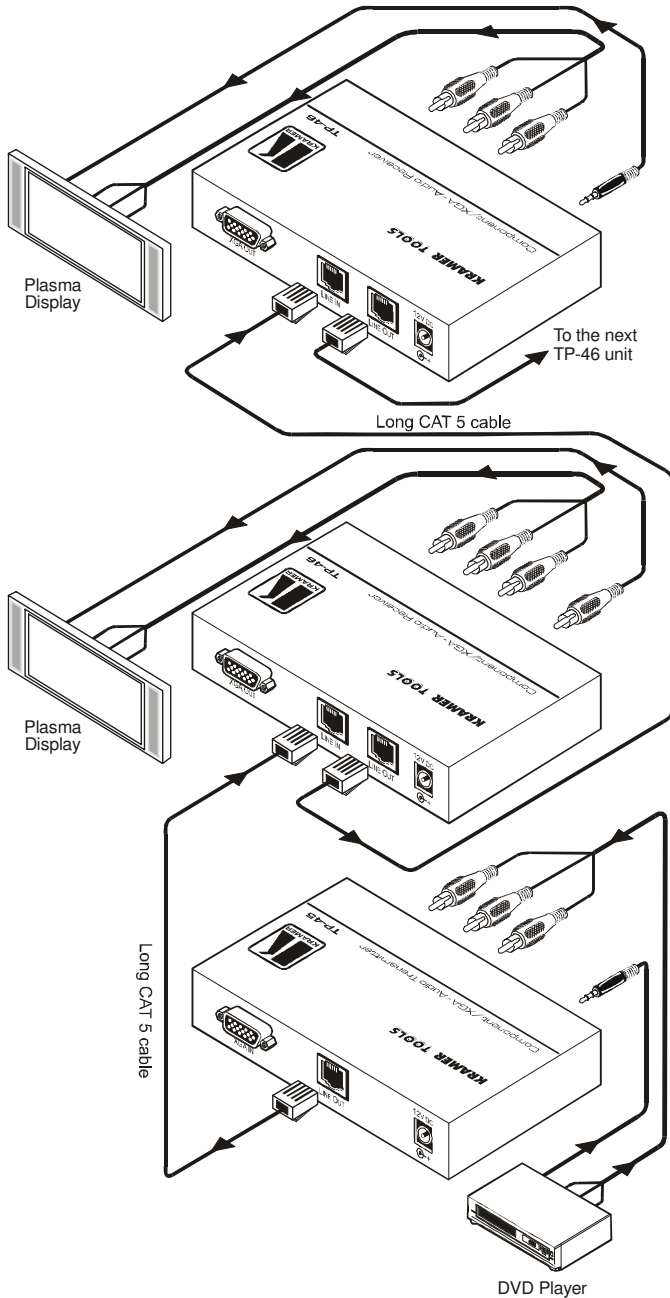

Figure 8: Component/XGA – Audio Distribution System, Component Video Mode
To configure a **TP-45/TP-46** Component/XGA – Audio distribution system¹ in the component video mode, as the example in Figure 8 illustrates, do the following:
6. Connect the 12V DC power adapter to the power socket and connect the adapter to the mains electricity on both³ the **TP-45** and the **TP-46** (not shown in Figure 8).